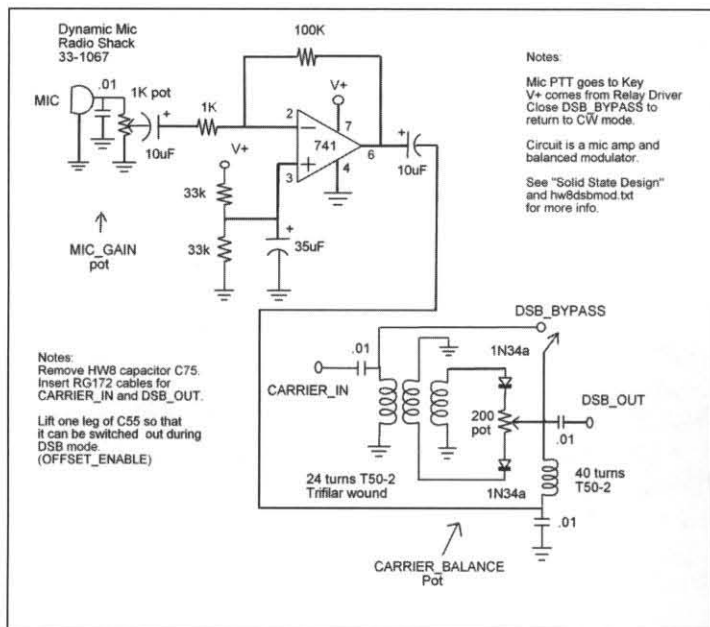
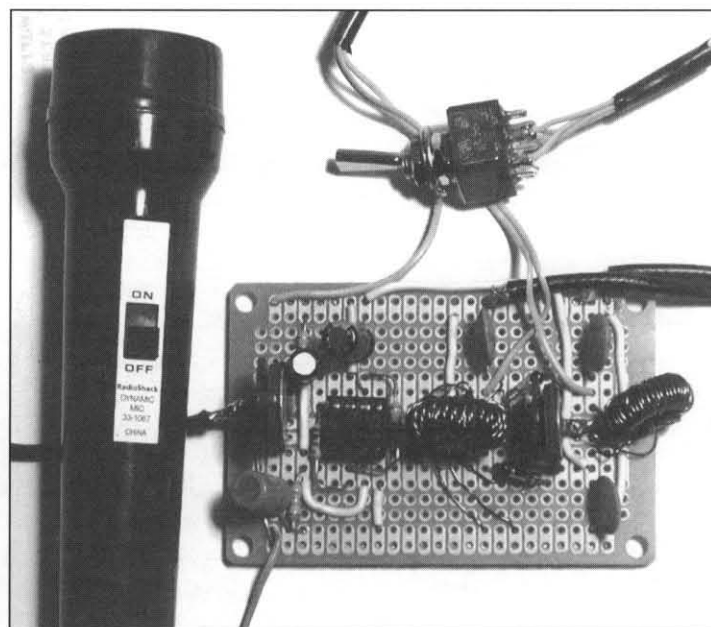

Figure 4—Speech amplifier and balanced modulator schematic.
Figure 5. Detail of Circuit Board Layout
5. Build the speech amplifier and balanced modulator circuit, shown in Figure 4. A detail of the layout is shown in Figures 5 and 6 (high resolution color photos are located at www.geocities.com/kl7r/hw8/).